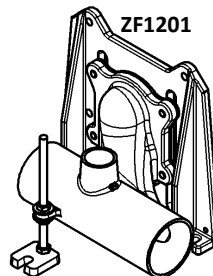

Figure 6a
- For ZF1201, see **Figure 6a**.